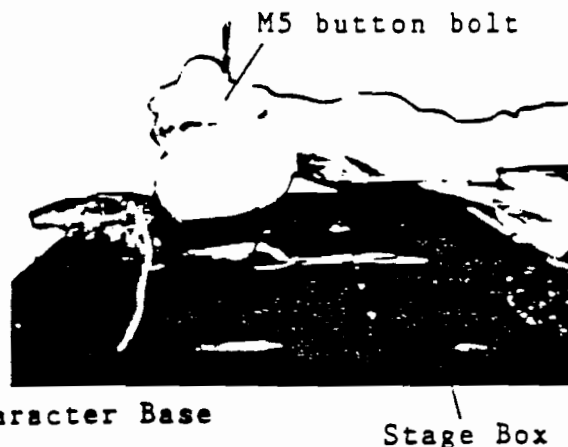

fig. 7-18
- ② Disconnect the connector (2P) of the boss character assy, loosen the nuts (M5 nut : 2) which are holding the assy, and pull the boss character assy upward and out to replace. [Ref. Fig. 7-18]